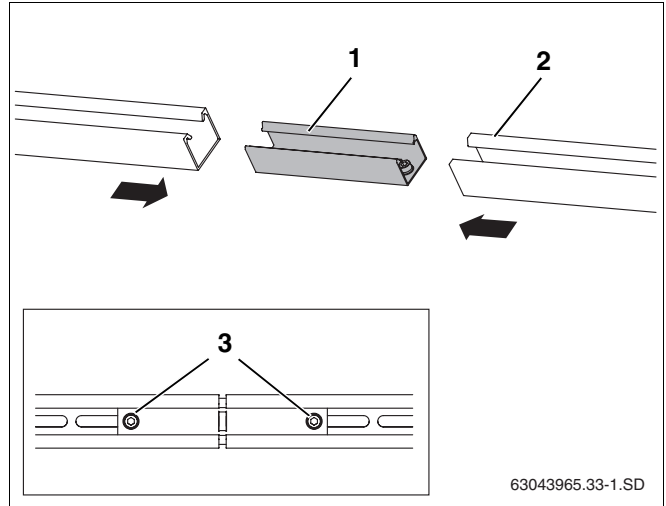

Fig. 31 Connecting profile rails
- ▶ Push rail connector (Fig. 31, **Item 1**) as far as it will go into both profile rails (Fig. 31, **Item 2**).
- ▶ To lock, tighten both fitted M10 threaded studs (Fig. 31, **Item 3**) in the rail connector using a size 5 Allen key.